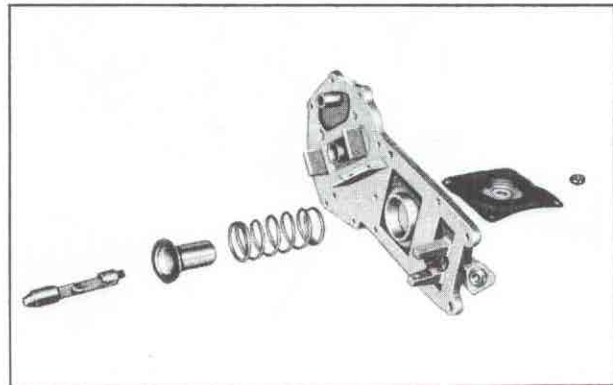

Figure 47
15. Assemble coasting shut-off shaft, sleeve and spring and compress upward into the bowl cover. Place diaphragm and plates over the threaded shaft and screw on the lock nut. Figure 47 illustrates parts sequence.